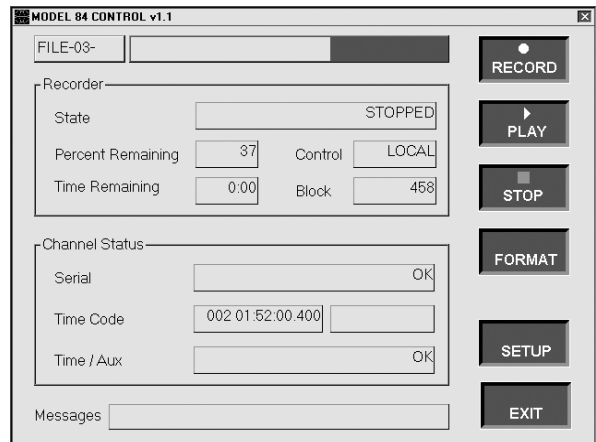

Figure 2-9 MODEL 84 CONTROL Screen
1. On the Model 84 CONTROL Screen (Figure 2-9) select RECORD. The Disk Recorder will begin recording data.
The CONTROL screen will now display Recorder Status by State, Block and, if appropriate, Time Code (see Figure 2-9). The State line shows the status of recording (Initializing, Recording, Locked, No Signal, etc.). The Block line displays block numbers as they increment. If a time code was selected) the time code line will display the time code by day, hour, minutes, seconds and fractions of seconds. If no time code was selected, this line remains blank. This screen also displays Channel Status, including Serial (for example, ECL OFF), Time Code and Auxiliary (if applicable)